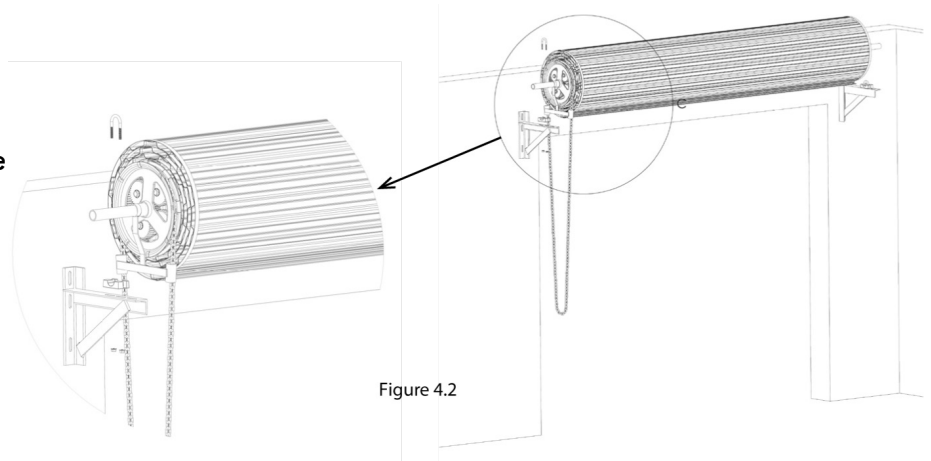

Figure 4.2
- As one person holds the door steady on one side, lift the axle of the hanging bracket and place the U bolt cradle underneath. Loosely fit the U bolt with the flange nuts as shown in Figure 4.2 using a 13mm socket.